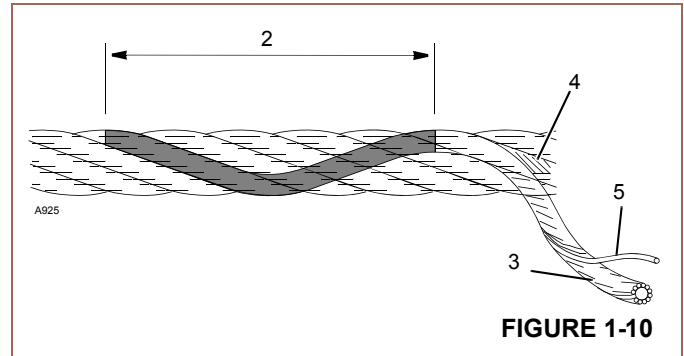

FIGURE 1-10
13. When checking for broken wires (5) Figure 1-10 relax the rope, move it off "pick-up points". Defect in the rope is in relation to "Lay Length" (2) which is the distance measured along rope in which one strand (3) makes one complete revolution around the core (4).